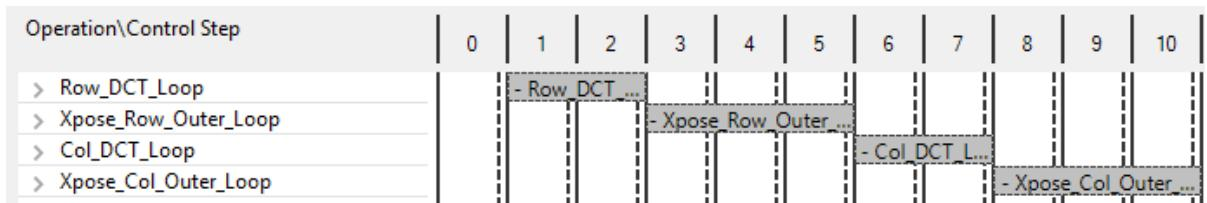

Figure 6-10: DCT_2D Schedule Viewer
6. In the Module Hierarchy pane, click the function **dct_2d** to navigate into the view for this function (Figure 6-10).
In the Performance Profile you can see that the latency of all the loops has been substantially reduced (Row_DCT_Loop and Col_DCT_Loop have been approximately halved from the earlier report in Figure 6-10). However, the majority of the latency is still due to these two loops, each of which calls the `dct_1d` block.